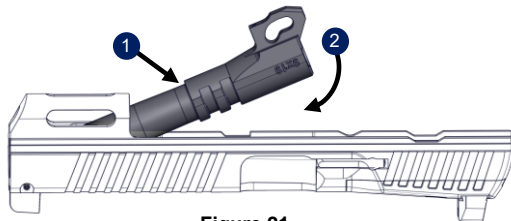

Figure 21
1. Insert the barrel in the slide (2) into its rearmost (locked) position (3) (Figure 21).